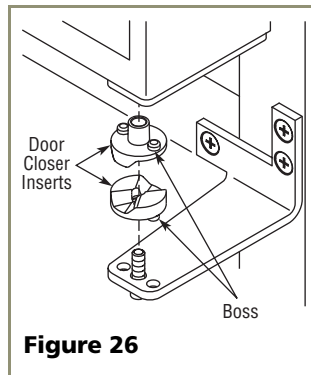

Figure 26
- Install door closer. See **Figure 26** on **Page 13**. Be sure that bosses on closers align with holes in hinge.
7. Reinstall the closers, lining up the bosses with holes in hinge and hinge plate (see **Figure 26**).